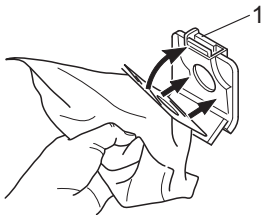

Fig. 22
7. Press the locking clip (Fig. 22/1) back and insert the new dust filter bag as shown in (Fig. 22).